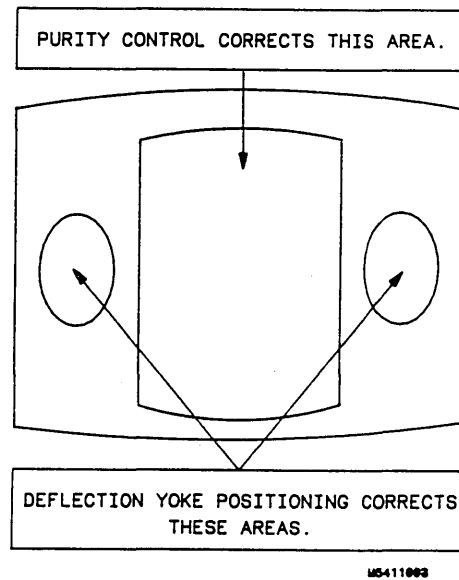

Figure 4-17. Landing and Purity Adjustment Guide.
10. If landing is not correct in step 9, repeat steps 6 through 9 for best compromise (see figure 4-17).